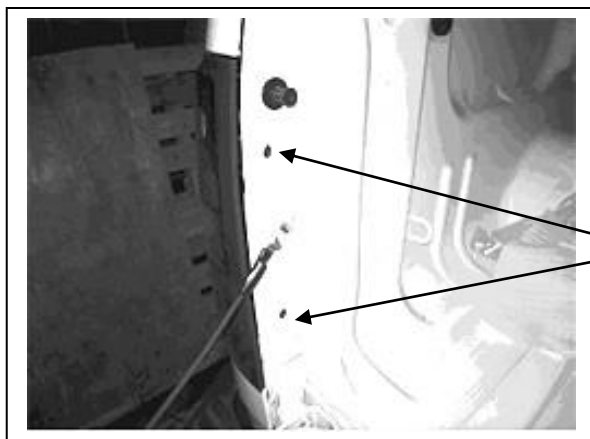

FIG. 1
2. Open tail gate and remove the two drive's side black Phillips head screws that hold taillight assembly in place. (Fig 1) Set the two screws aside, as they will be reused in the guard and taillight assembly reinstallation.